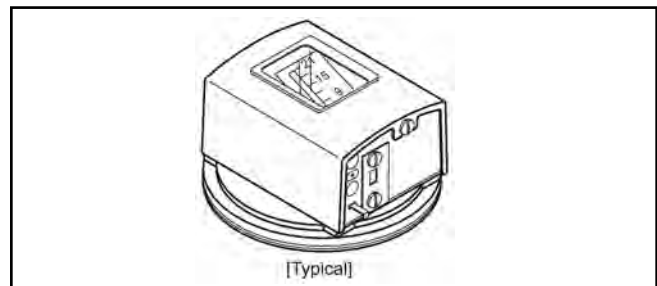

Figure 5-5
**HOW IT WORKS** - See Figure 5-5. The pressure switch senses any change in gas pressure and, if properly adjusted, will transmit an electrical signal to the automatic shutoff valve and/or other interlocking devices when an unsafe condition exists. The burner will then re-cycle or completely shut down depending upon the flame safeguard used. Gas pressure switches are designed to operate over a specified pressure range; therefore, each switch must be selected to be compatible with the burner operating gas pressure and also to obtain the desired electrical features.